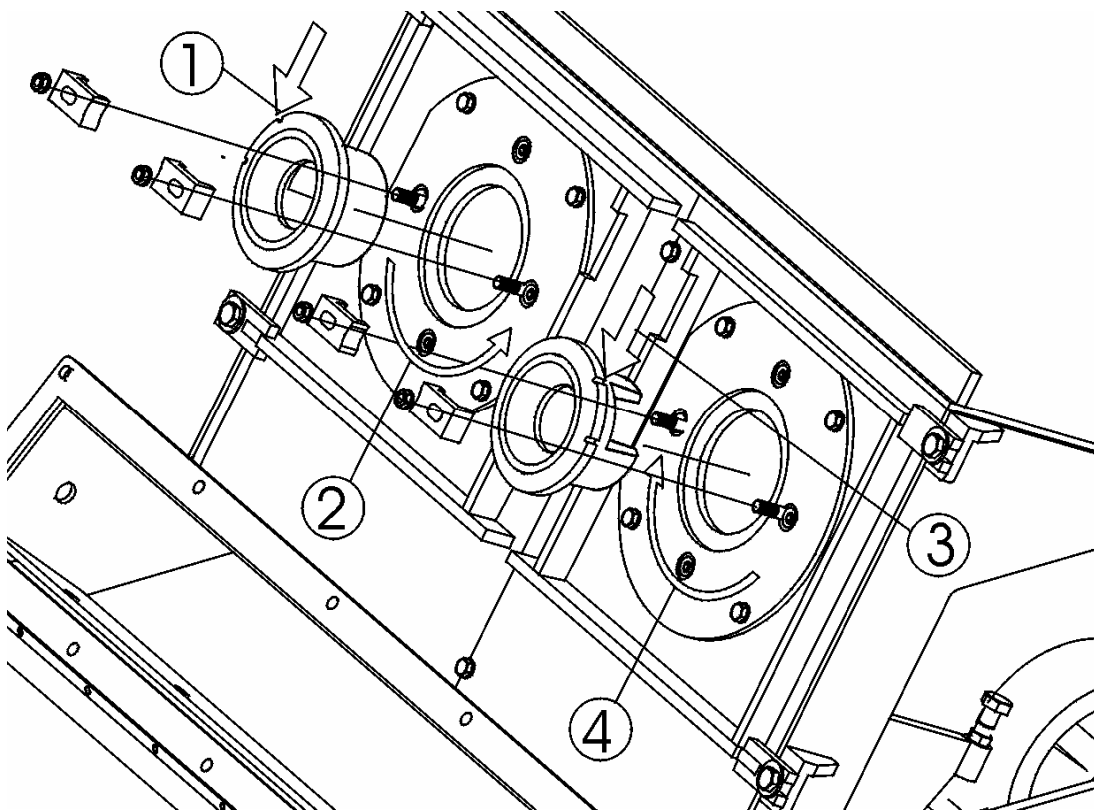

Figure 7.2
- Set the upper edge of the window of the left control cage on 11:30 compared to the face of the clock. The right side should be handled the same in mirror symmetry (see Figure 7.2).